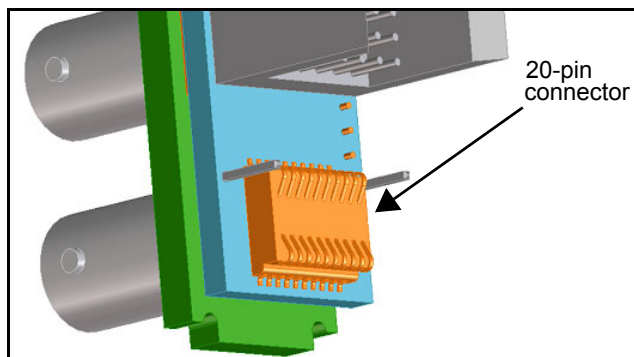

Figure B-1. Connector on 6800+ Back Module
- c. View the 30-pin spring connector at the bottom of the back module. See Figure B-1.